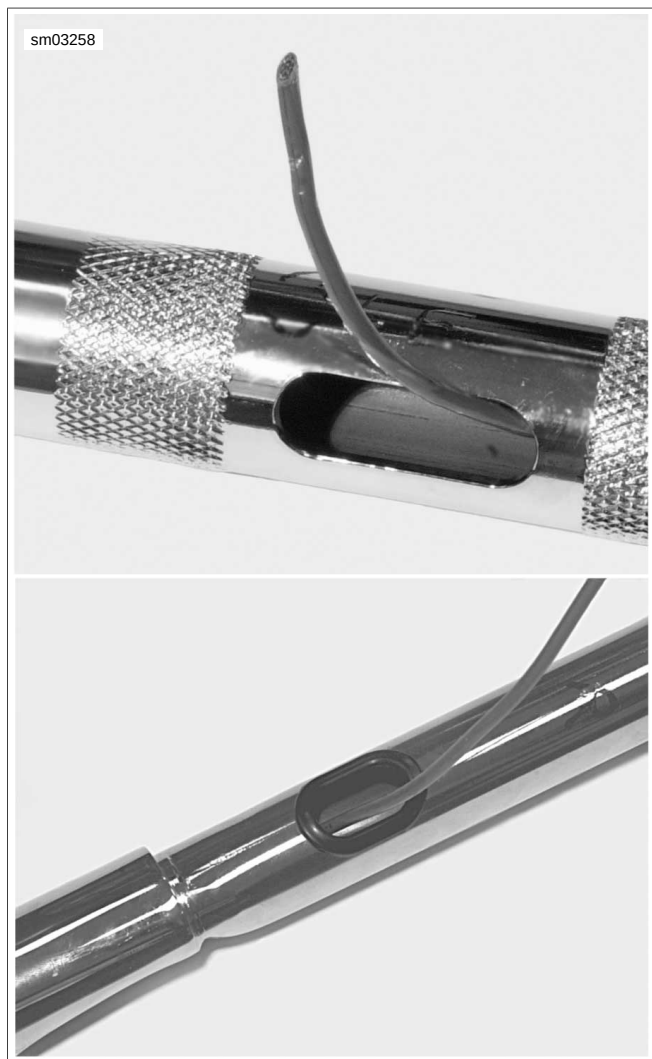

Figure 2-93. Wire Leader in Handlebars (handlebars removed from motorcycle)
7. See Figure 2-93. Thread the wire leaders through the handlebar grommets and out the center hole.